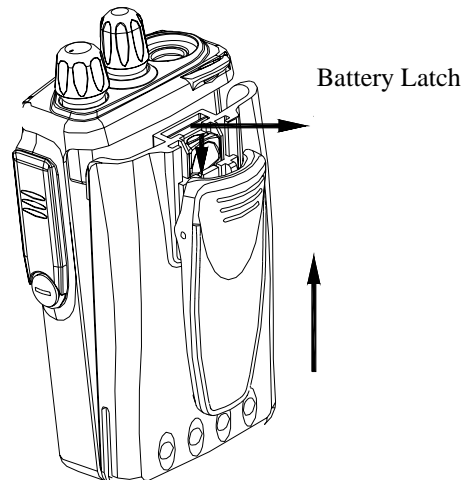

Fig. 1
- c. Lift the battery off. (See fig.1)